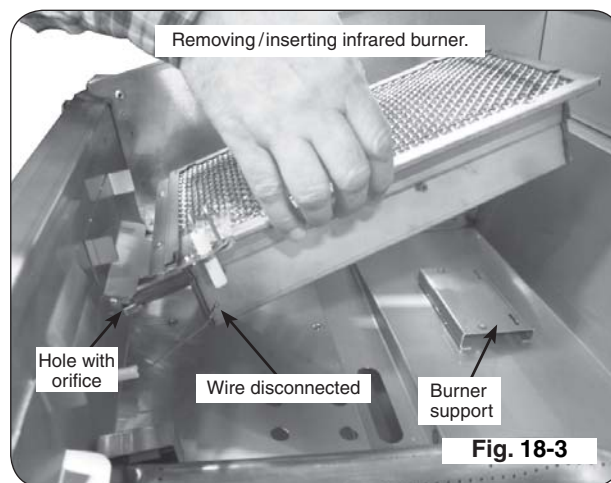

Fig. 18-3
4. Carefully lift the infrared burner from the burner support and out from the hole in the forward fire wall (see Fig. 18-3).
5. Using a $\frac{3}{8}$ " socket, remove the orifice from the valve. Access this through the hole in the forward firebox plate (see PARTS LIST and Fig. 18-3). Check the number stamped on the face of the orifice (see Table 1).